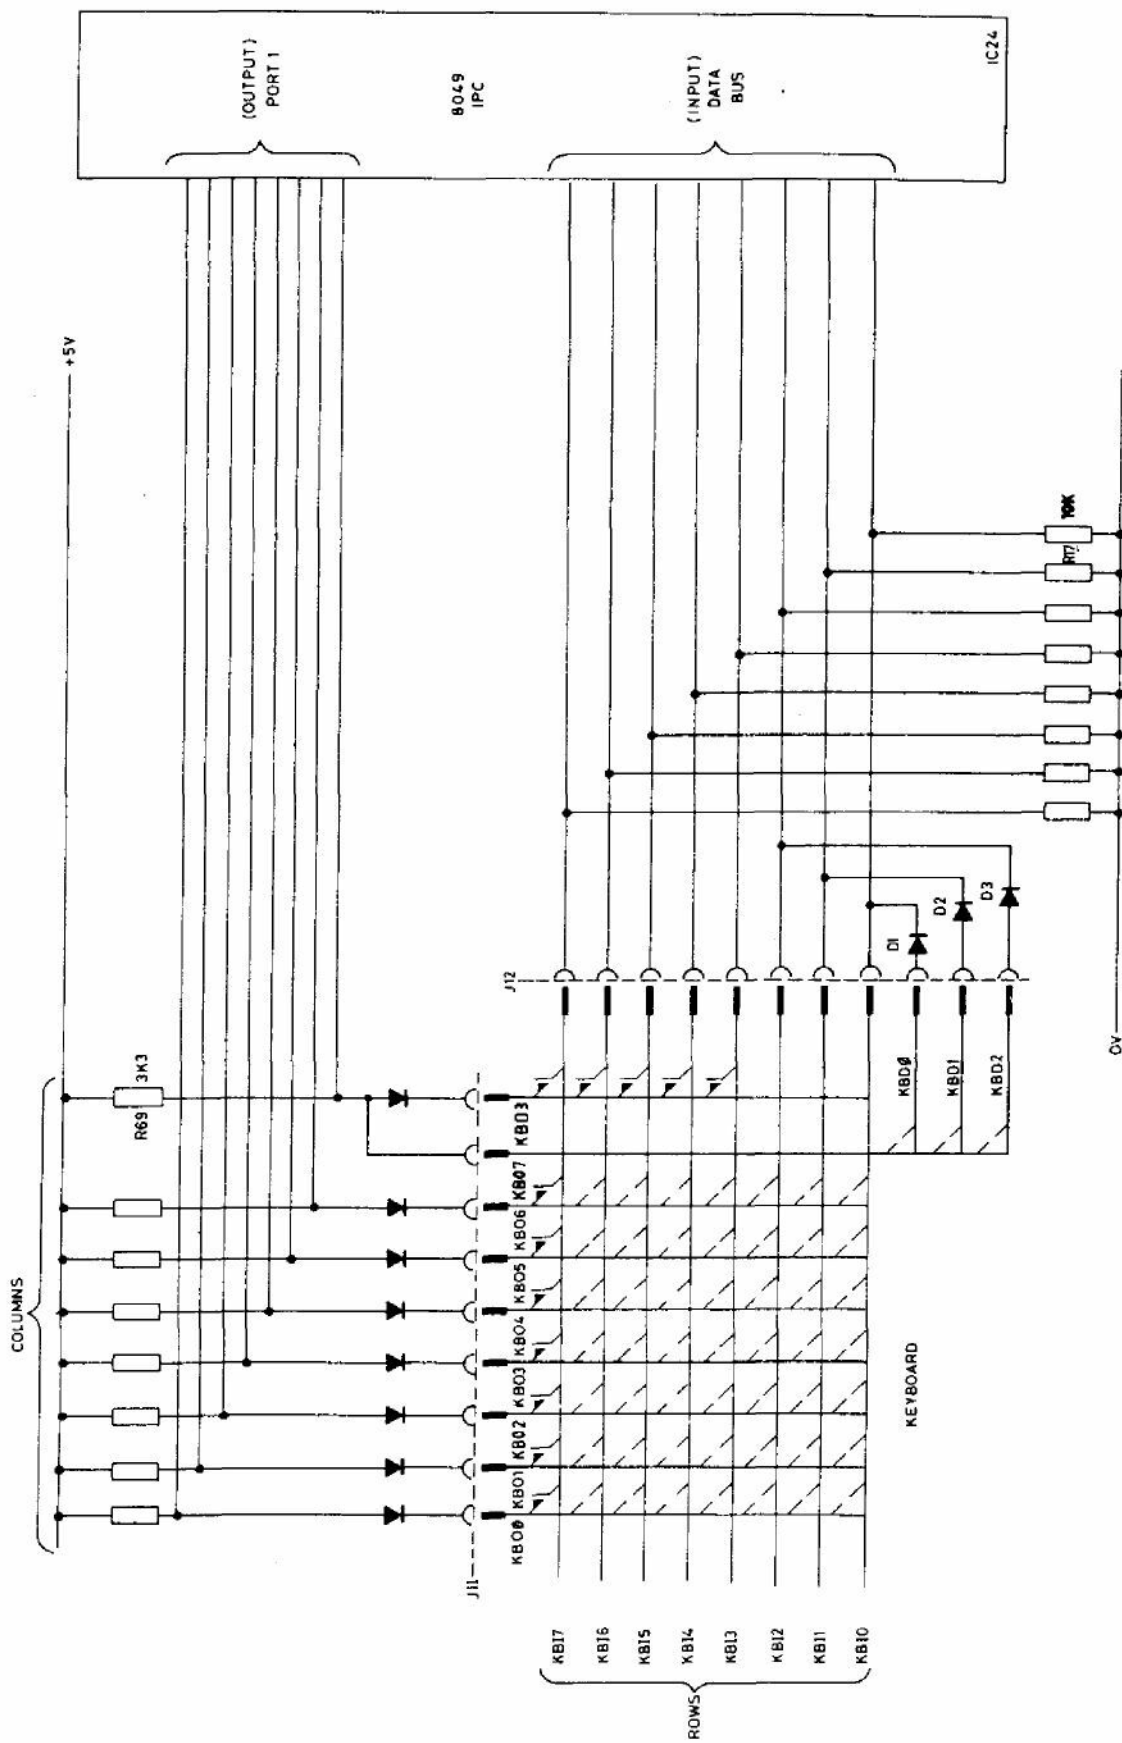

FIGURE 1.2 KEYBOARD MATRIX INTERCONNECTIONS
- 4.12 Keyboard Monitor. Under program control the 8049 **systematically** scans the **keyboard**, recording which keys have been pressed. Figure 1.2 shows the way the keyboard is connected. It consists of an 8 x 8 matrix with one key, the shift key, connected to three input lines. The intersection of each row and column is bridged by a normally open contact. Pressing the key closes this switch. The row **'outputs'** and column **'inputs'** are shown connected to separate connectors J11 and J12, one to the port 1 outputs of IC24 and the other to the data bus inputs. **Pull-down** resistors R17 to R24 ensure that when none of the key-switches are closed row inputs **KB00** to **KB07** remain low.